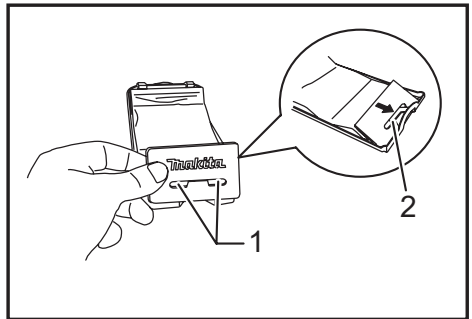

Fig.8
► **Fig.8:** 1. Notch 2. Guide